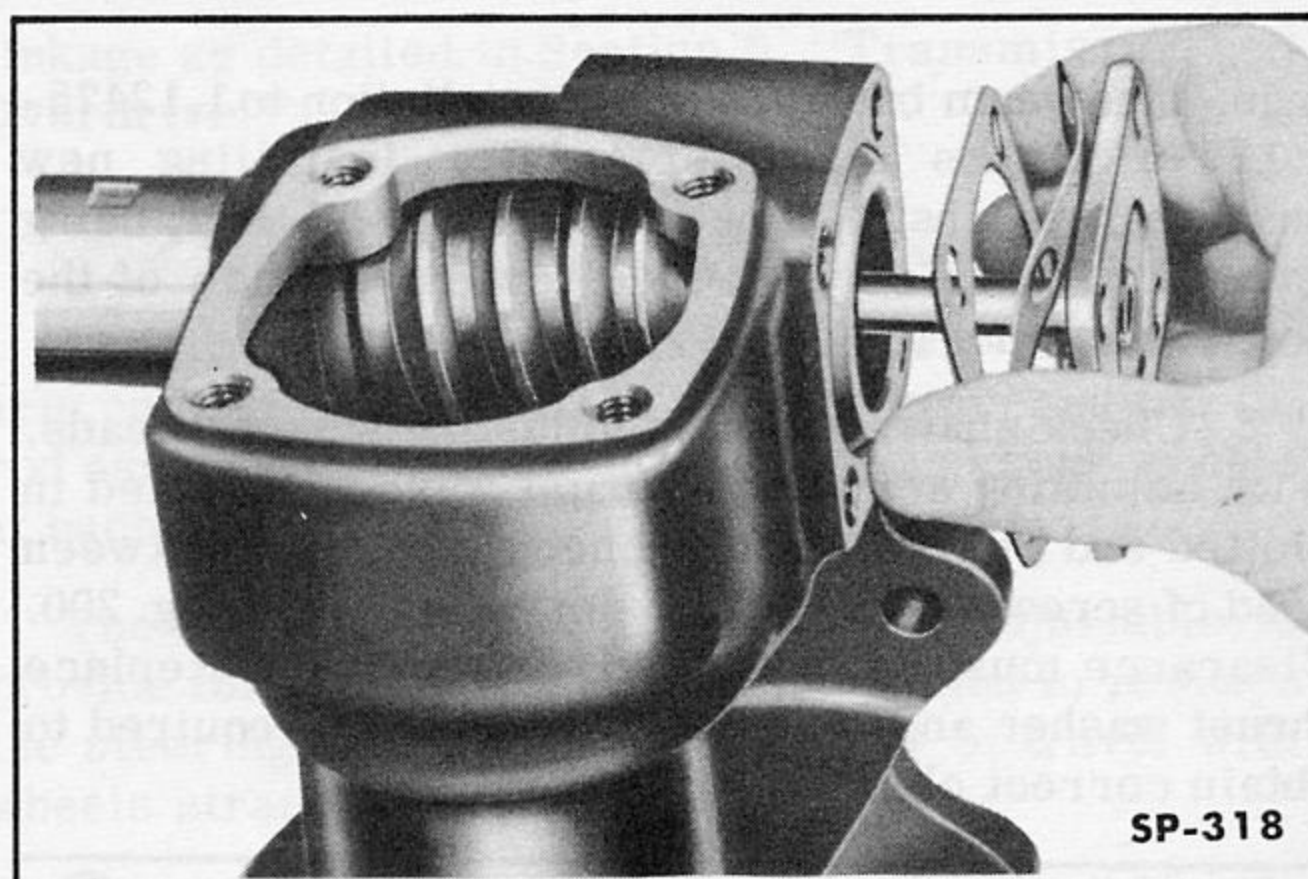

Fig. 198—Removing Housing End Cover
4. Remove housing end cover attaching bolts, housing cover, and shims used to establish worm bearing adjustment (Fig. 198). Check total thickness of shims with a micrometer so it will be possible to use the same thickness when assembling steering gear.